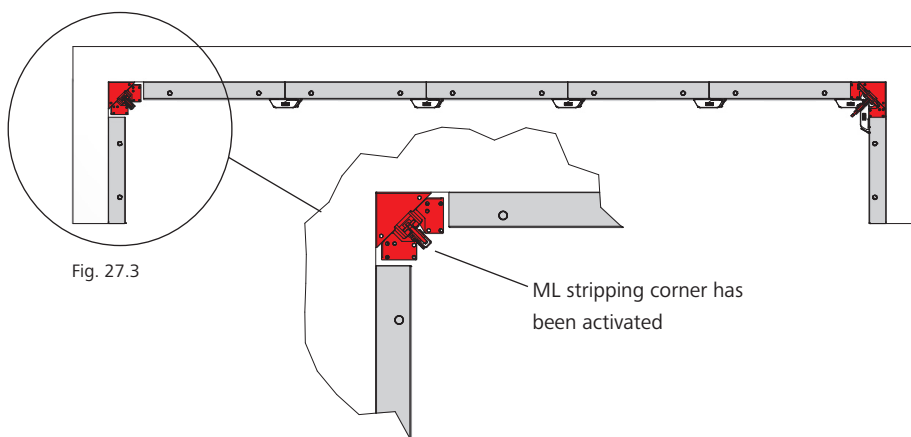

Fig. 27.3
2. Activate the ML stripping corner (Fig. 27.3).